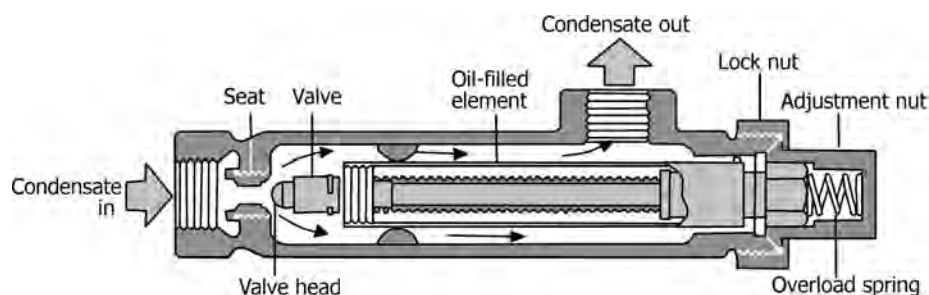

FIGURE 12.19 Liquid expansion steam trap. (Courtesy: Spirax Sarco.)
- This is one of the simplest thermostatic traps. Figure 12.19 gives its constructional details. An oil-filled element expands when heated to close the valve against the seat.